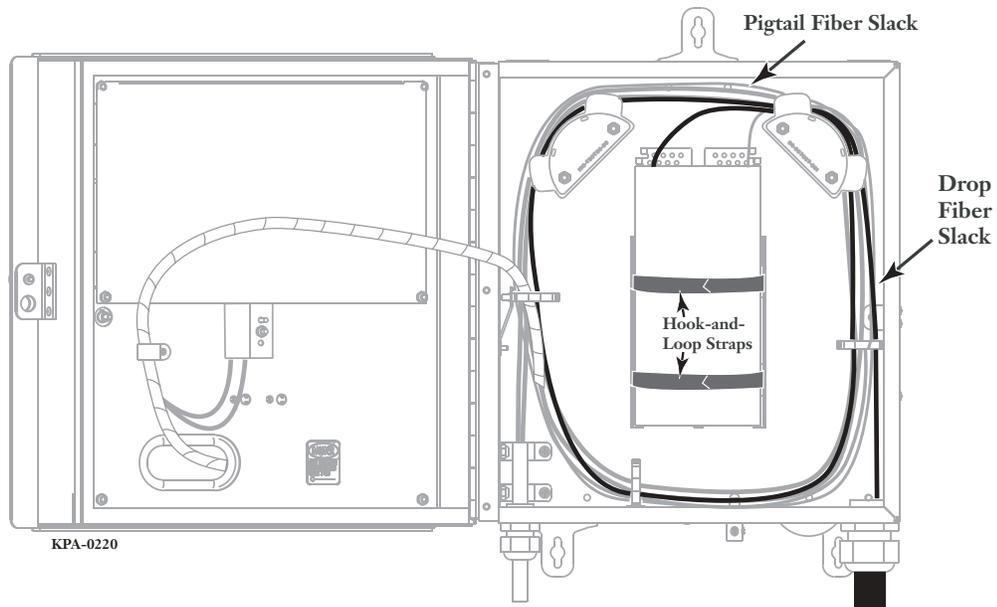

Figure 5 — Route Slack in Clips and Secure Trays
- Step 7** Route slack around the splice chamber as it was prerouted and secure in the routing clips (Figure 5).